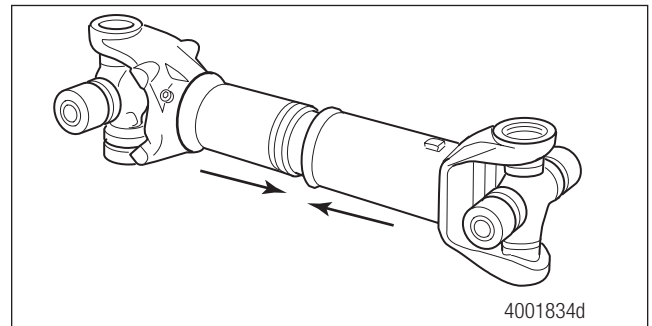

Figure 5.17
10. Push together the driveline sections. Figure 5.17.